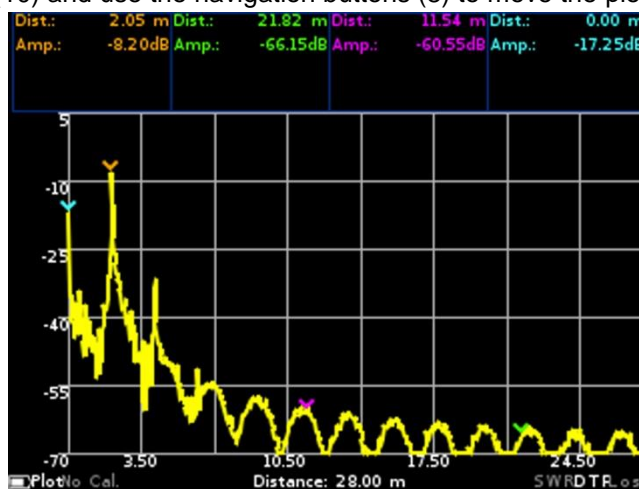

Figure 10.9 – Plot of distance measurement to cable fault
10.7.1. **DTF – distance to fault.** This plot (Figure 10.9) allows you to measure the distance to fault or heterogeneity of the cable in the communication lines. Calculated as the inverse Fourier transform of the frequency array of reflection coefficients. On the device screen, the plot is displayed as **DTF**.